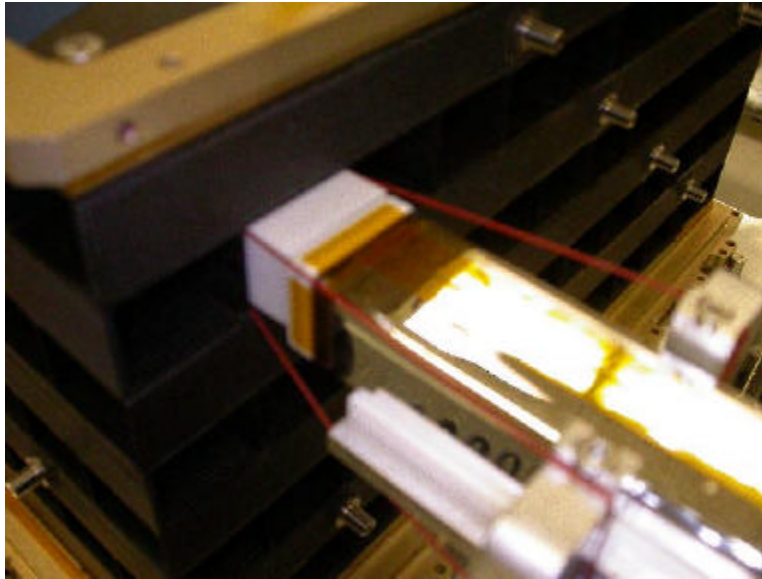

Figure 5.3-4 – Insert Wire Guide Block into Cell
6. Insert the Teflon wire guide block into the (+) opening of the cell to start the CDE insertion as shown in Figure 5.3-4.